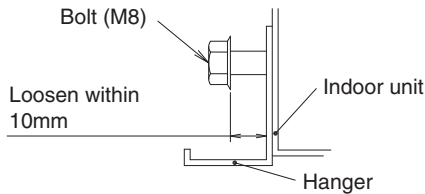
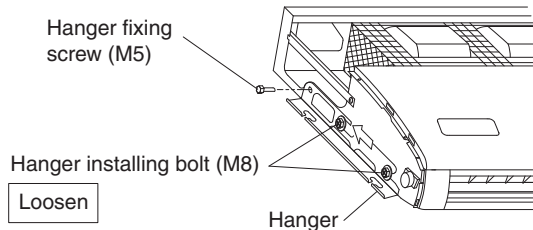

Fig. 7
Fig. 8
- Open the knock hole at the wiring inlet side at the rear surface or top surface, and install the attached resin bushing (10).
- Loosen 2 bolts for installing the hanger at both sides (M8) (4 places at left and right) within 10mm. **(Refer to Fig. 7 and Fig. 8)**
- Remove the fixture screw for hanger at the back side (M5), pull the hanger backward (the arrow direction) to remove. **(Refer to Fig. 8)**